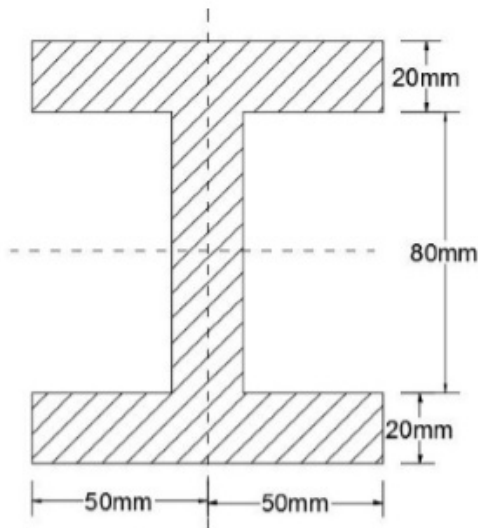

Figure 8b
- B) Define neutral axis, section modulus and state assumptions made in simple bending theory. (10)
- 8) State assumptions made in Euler's theory of long column and explain the limitation of Euler's formula. (8)
- B) Figure 8b shows the section of a steel column of 3m length and whose ends are hinged. Calculate the safe load that the column can carry if FOS=3. Assume $f_c = 350 \text{ N/mm}^2$, $a = 1/7500$. (12)